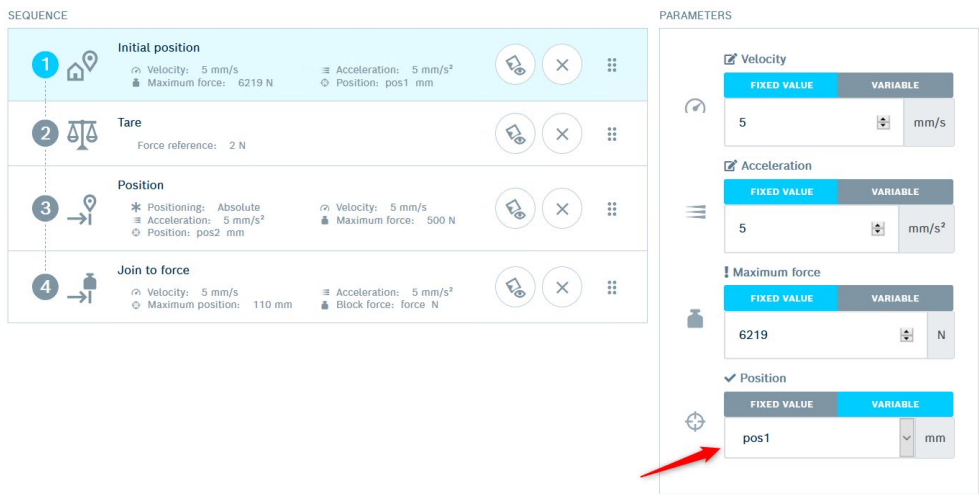

Figure 10: Use variable within sequence
An alias name can be assigned to every variable, which can then be selected as a parameter within program steps. (e. g. “pos1”, Figure 10).